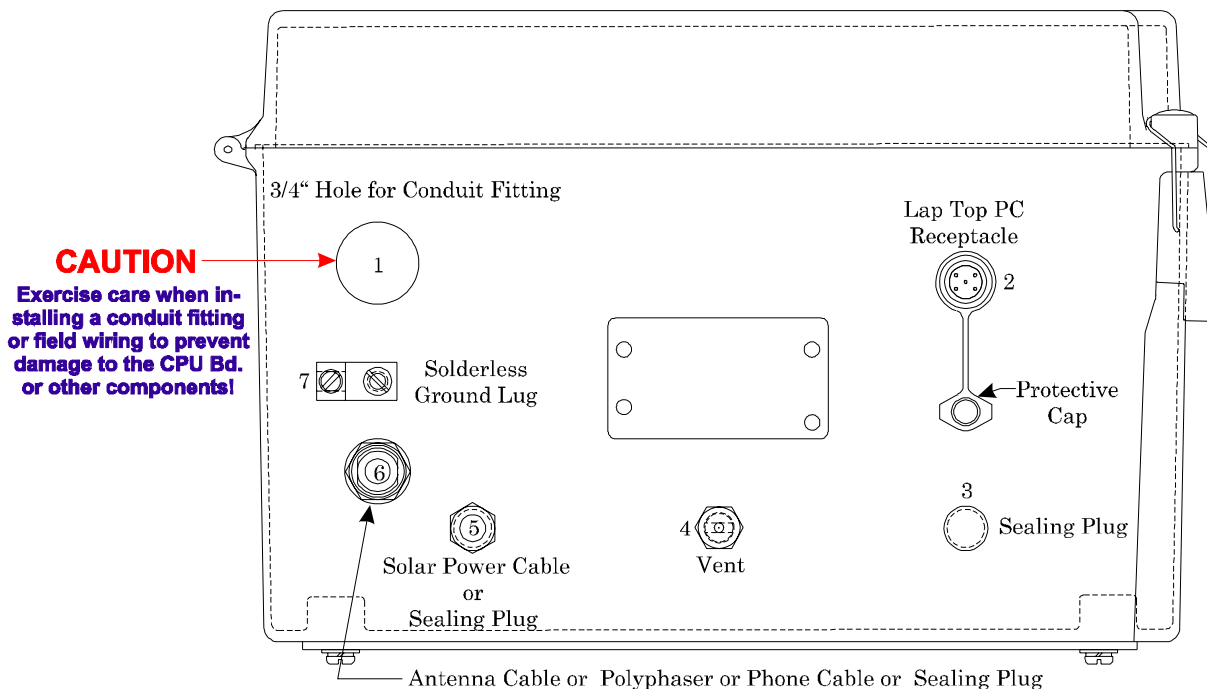
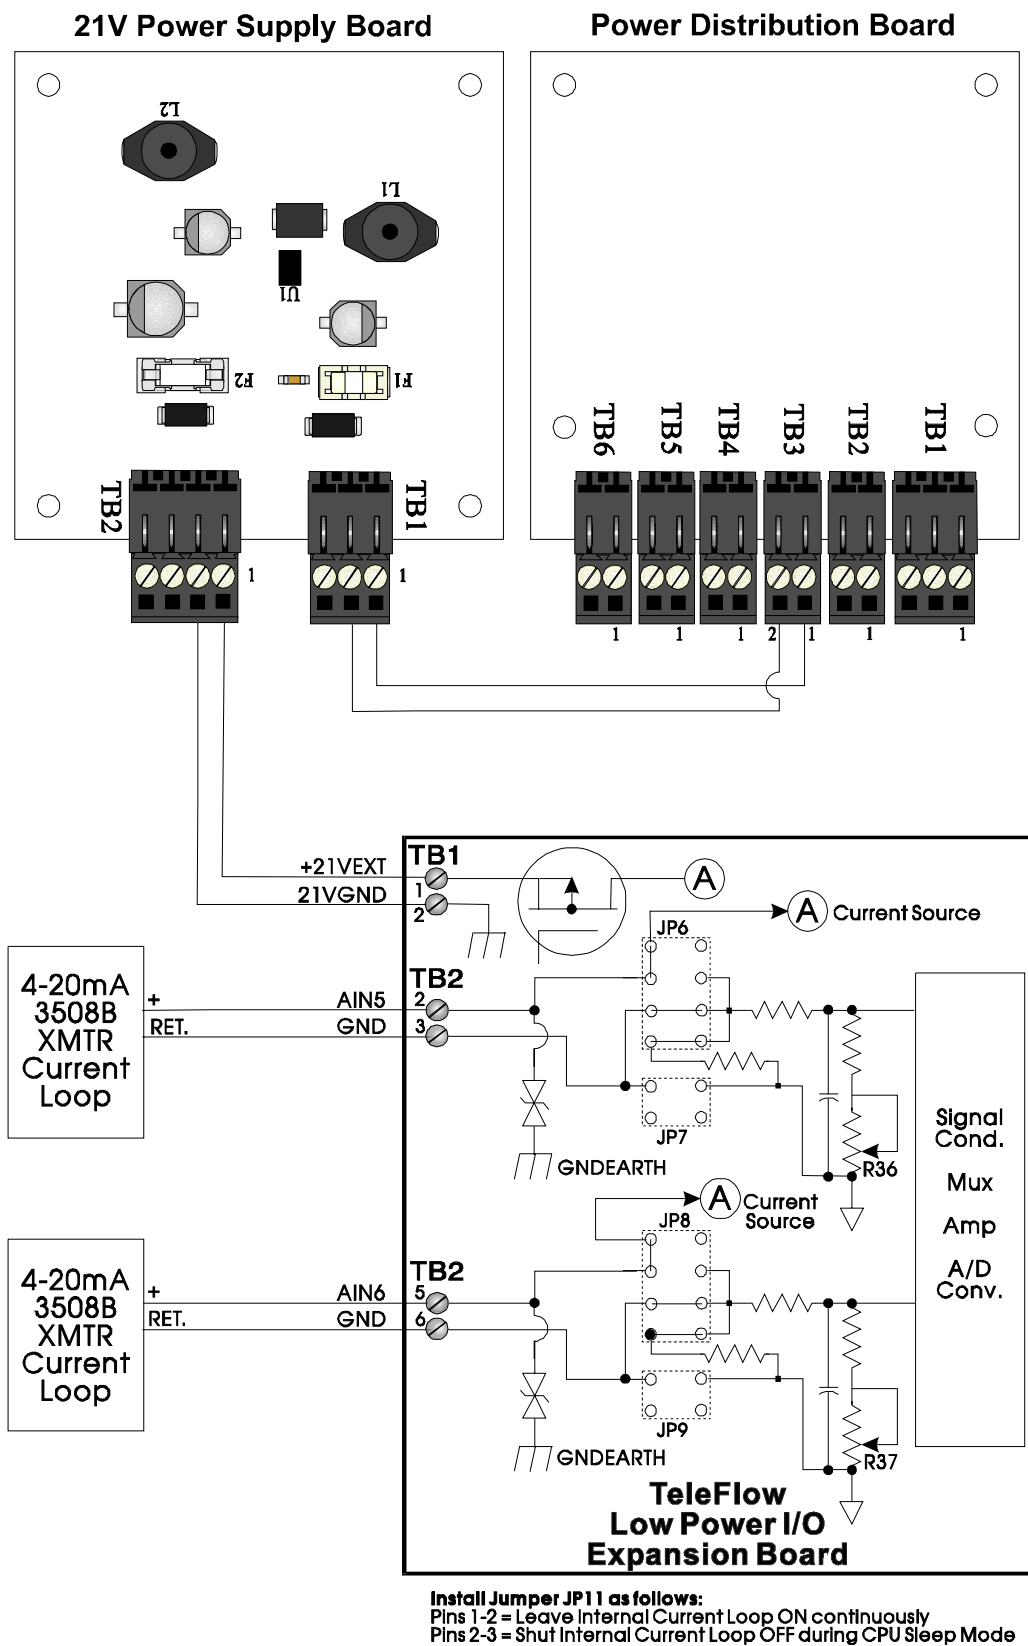

Figure 3 - Bottom View of TeleRTU Plus (Similar to TeleFlow Plus)
Figure 4 - 21V Power Supply Board Field Wiring
3. Connect power wiring (14 AWG) between the Power Distribution Board (PDB) and the 21V Power Supply Board's input terminals and between the 21V Power Supply's output terminals and the appropriate terminals on the Low Power I/O Expansion Board (LPI/OEB) (see Table 1 and Figure 4). Route field wiring cable(s) (14 AWG) associated with the item to be powered, e.g., a 3508B Transmitter into the TeleFlow Plus or TeleRTU Plus through a 3/4" conduit fitting (user supplied) on the bottom of the enclosure (see Figure 3). Connect Transmitter wiring to the appropriate LPI/OEB terminals (see Figure 4).